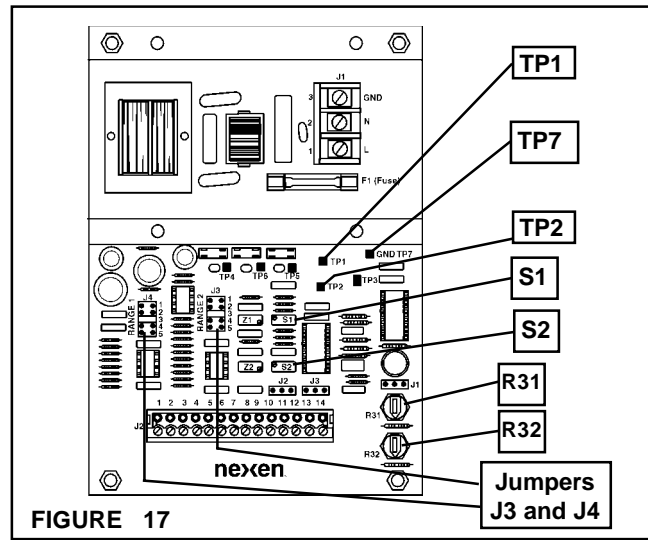

FIGURE 17
2. Connect a voltmeter to **TP7 (COM)** and **TP1** (See Figure 17).
3. Rotate **S1** clockwise to _____ VDC, increasing the reading at **TP1** (Example: Maximum Tension = 100 Lbs. with a 50 Lb. weight, adjust the output for 5.0VDC) (See Figure 17).